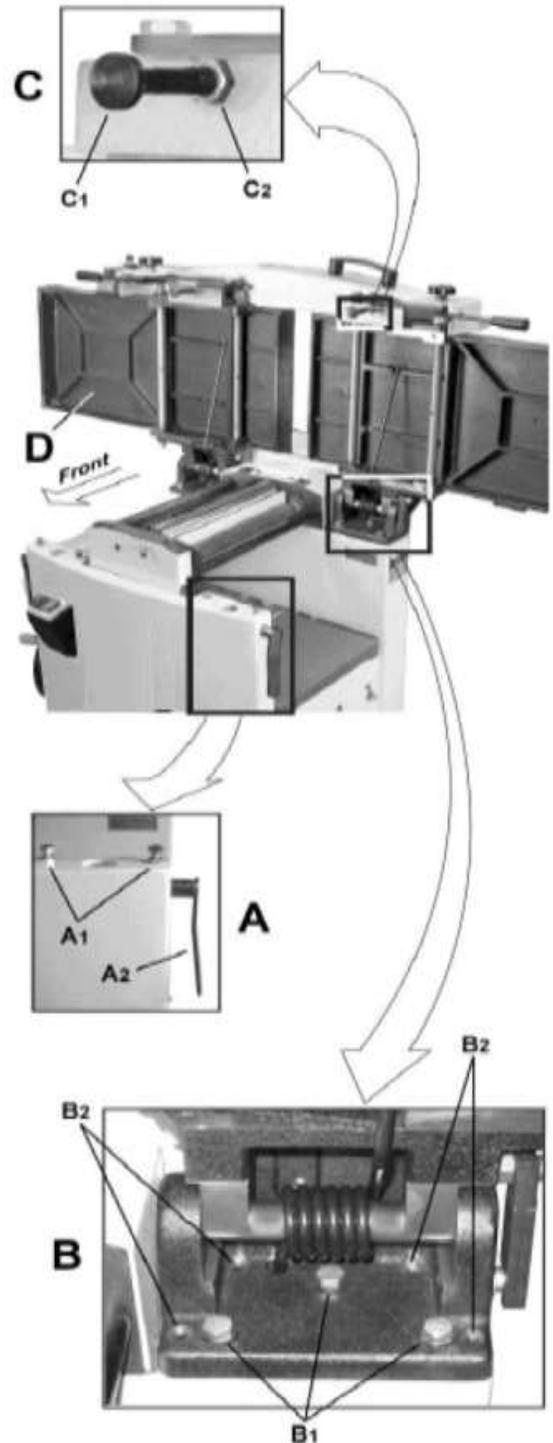

Figure 13
2. Unlock both cabinet lock handles (A2 Fig.13).
3. Raise the table (D) fully upright. Adjustment is performed by means of four setscrews (B2) that adjusts the table pitch and tilt at the back (towards the fence) and two hex cap screws (A1) that adjusts the table toward the front.